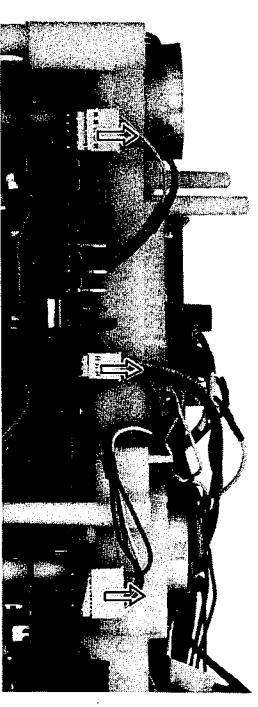

Figure 6-3
1. Remove three sockets at the mechanism P.W.B., two sockets at the record/playback P.W.B. and one socket at the bias current P.W.B. See Figs. 6-3 and 6-4.